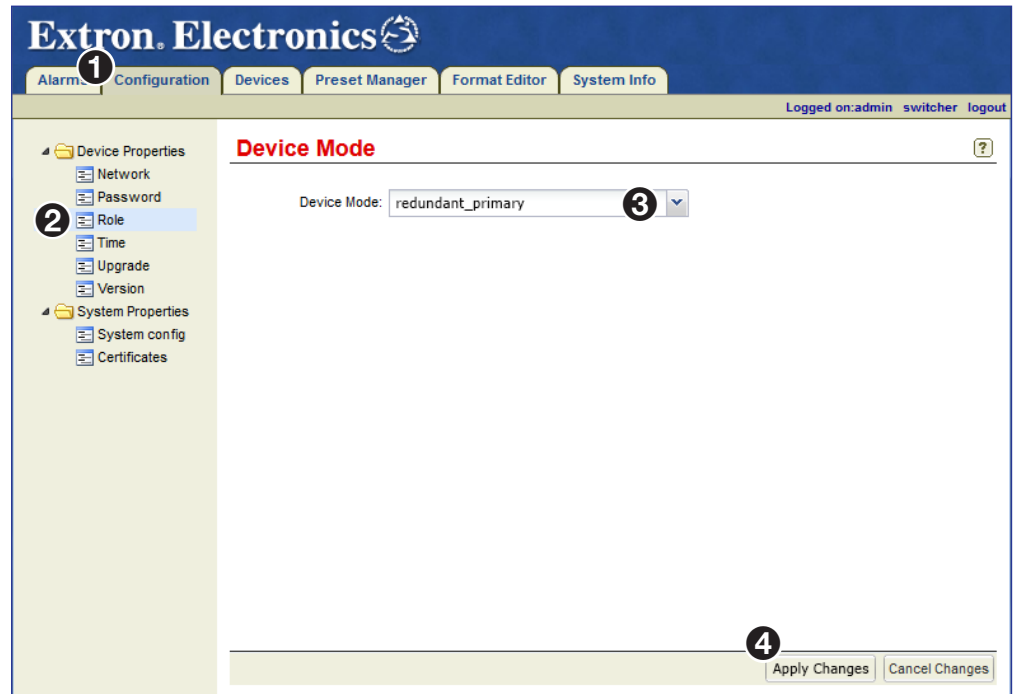

Figure 157. Configuration Page — Redundant Primary Role Setup
The **Configuration** page opens (see figure 157, ❶).